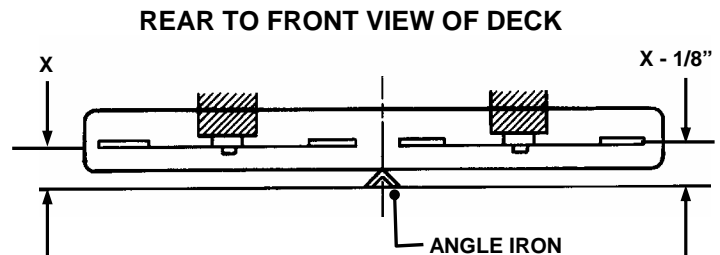

FIGURE 4.2
- Measure the distance from blade tips to floor. If the measurement is within 1/8" from side-to-side, the deck levelness is satisfactory. If the difference from side-to-side is greater than 1/8", an adjustment will have to be made. See Figure 4.2.